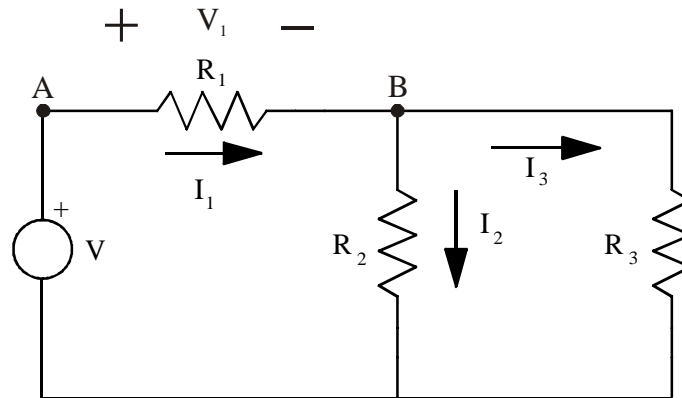

Figure 2.14 Current Divider Circuit
- (1) Describe how you read resistor values and tolerances.
- (2) Derive formulas, using the voltage divider and current divider rules, for the following voltage and current in Figure 2.14, using  $V$ ,  $R_1$ ,  $R_2$ , and  $R_3$  only.